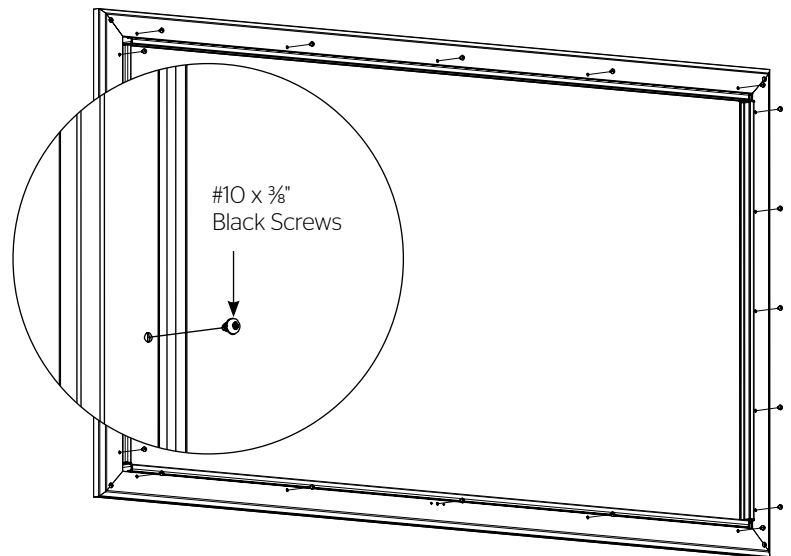

Figure 5
3. Secure the outer bezel to the inner frame by inserting the #10 x $\frac{3}{8}$ " black screws into each of the large holes on all four sides of the screen (Figure 5).